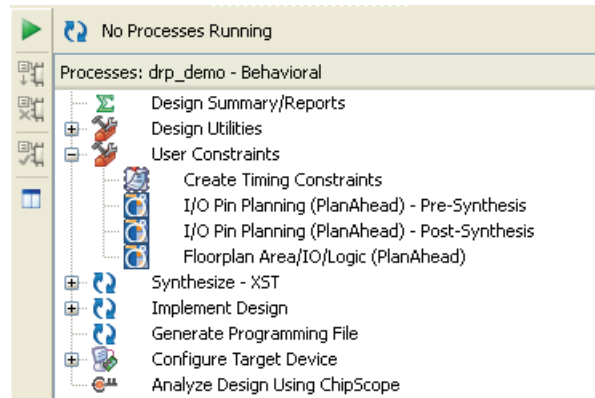

Figure 15-1: Project Navigator Processes Pane
- In the Processes pane, expand **User Constraints** and double-click **IO Pin Planning (PlanAhead) - Pre-Synthesis**, as shown in Figure 15-1, page 399.